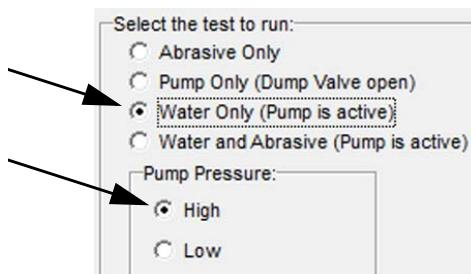

Figure 5-16
2. Purge the **high-pressure plumbing** to flush out any particles or contamination using the **nozzle test** with the **Water** only, **Low** pressure options (see Figure 5-16 for test menu example). Repeat this test two or three times.